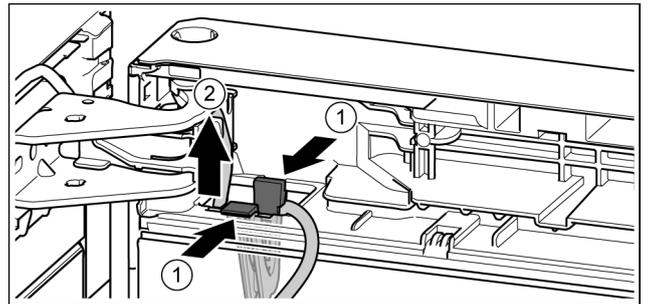

Fig. 20
- ▶ Press the tab. Fig. 20 (1)
- ▶ Remove the cable holder with its cable. Fig. 20 (2)